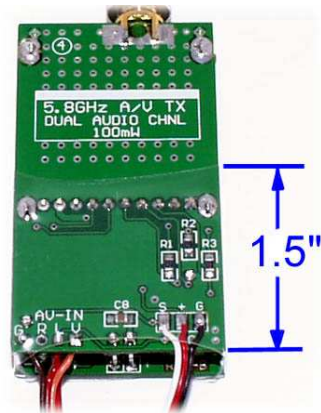

Figure 11, Heatshrink
- 10.6 See Figure 11. Slide a 1.75 inches (45mm) long piece of heatshrink over the transmitter so that it covers the end with the exposed electronics. About 0.25 inches (6mm) should hang over the end that has all the wires. Airflow is needed so do NOT totally cover the end. Use a heat gun or hot hair dryer and neatly shrink the tubing. Matches and lighters are not recommended.